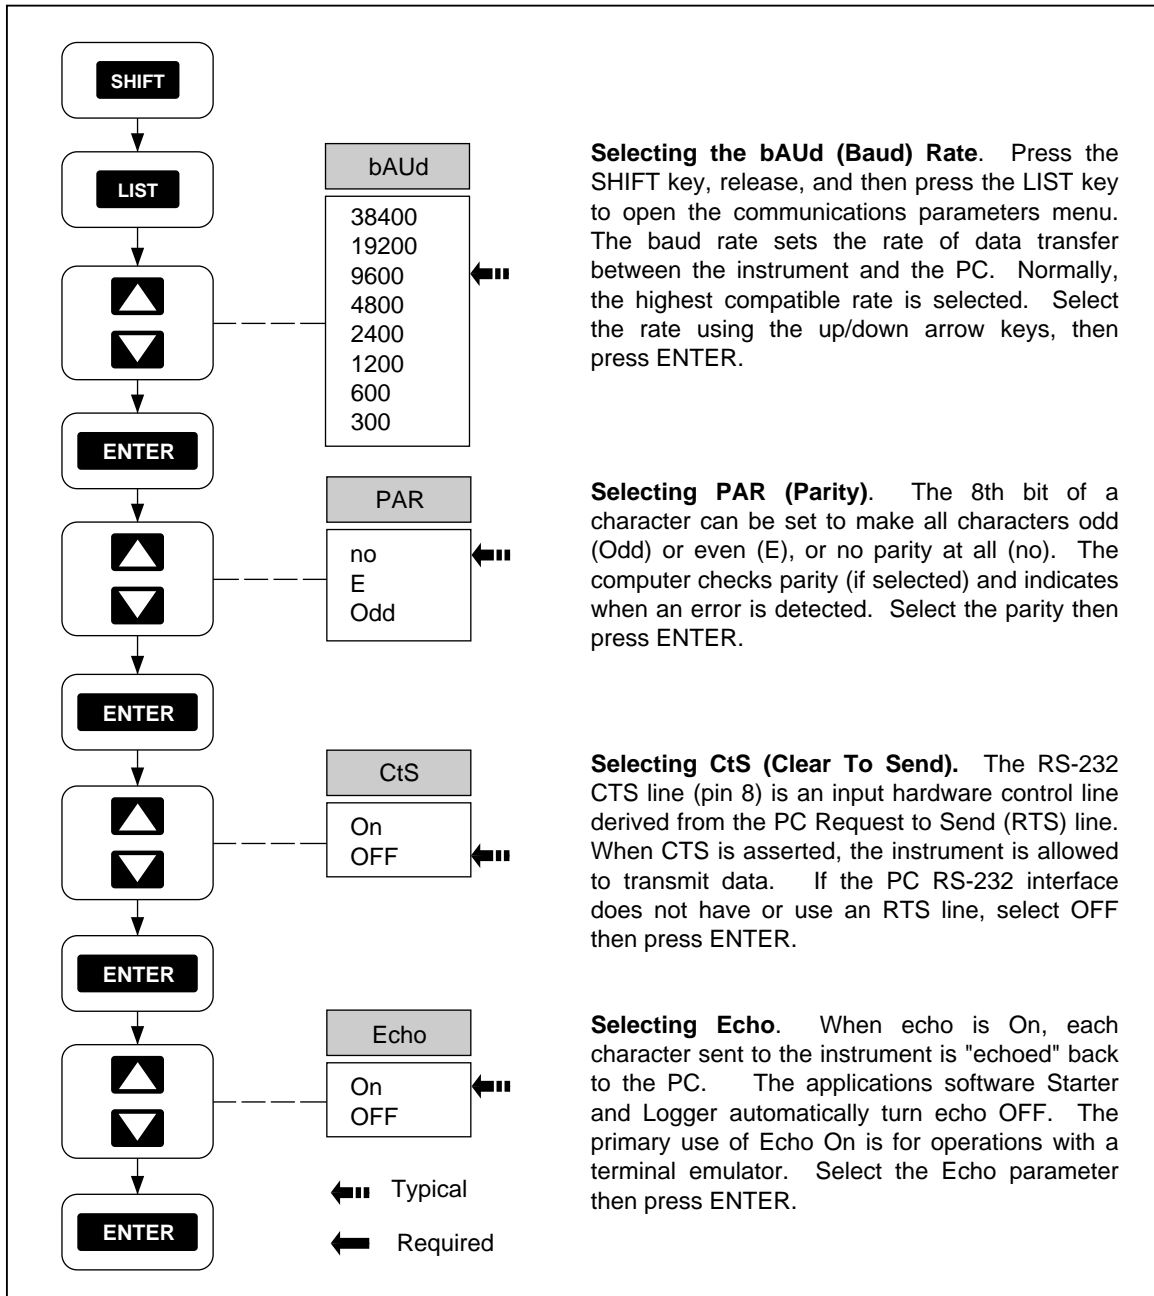

Figure 4-2. Configuring the Instrument for Computer Operations
Correct operation of the interface between the instrument and PC depends on the baud rate, parity, CTS (Clear To Send) and echo of the RS-232 interface parameters. Perform the procedure in Figure 4-2 to establish these parameters for the instrument. The instrument uses one stop bit, which is not selectable.
1. Configure the Data Bucket communication parameters, as described in Figure 4-2, for bAUd = 9600, PAR = no, CtS = OFF, and Echo = On.
5. In Terminal, request the Data Bucket to send its identification number by entering: *IDN? <Enter>. If *IDN? did not appear on the screen as the characters were entered, be sure the instrument RS-232 port is configured for Echo = On (Figure 4-2). If the wrong characters appear, there is an incompatibility in the COM port configurations (baud rate, parity, etc.). If everything seems normal, but characters still don't appear, check the RS-232 connection cable (see Appendix D). When the RS-232 link is operating correctly, the instrument returns an identification string and execution prompt similar to the following:
4. In Terminal, request the Data Bucket to send its identification number by entering: *IDN? <Enter>. If *IDN? did not appear on the screen as the characters were entered, be sure the instrument RS-232 port is configured for Echo = On (Figure 4-2). If the wrong characters appear, there is an incompatibility in the COM port configurations (baud rate, parity, etc.). If everything seems normal, but characters still don't appear, check the RS-232 connection cable (see Appendix D). When the RS-232 link is operating correctly, the instrument returns an identification string and execution prompt similar to the following: